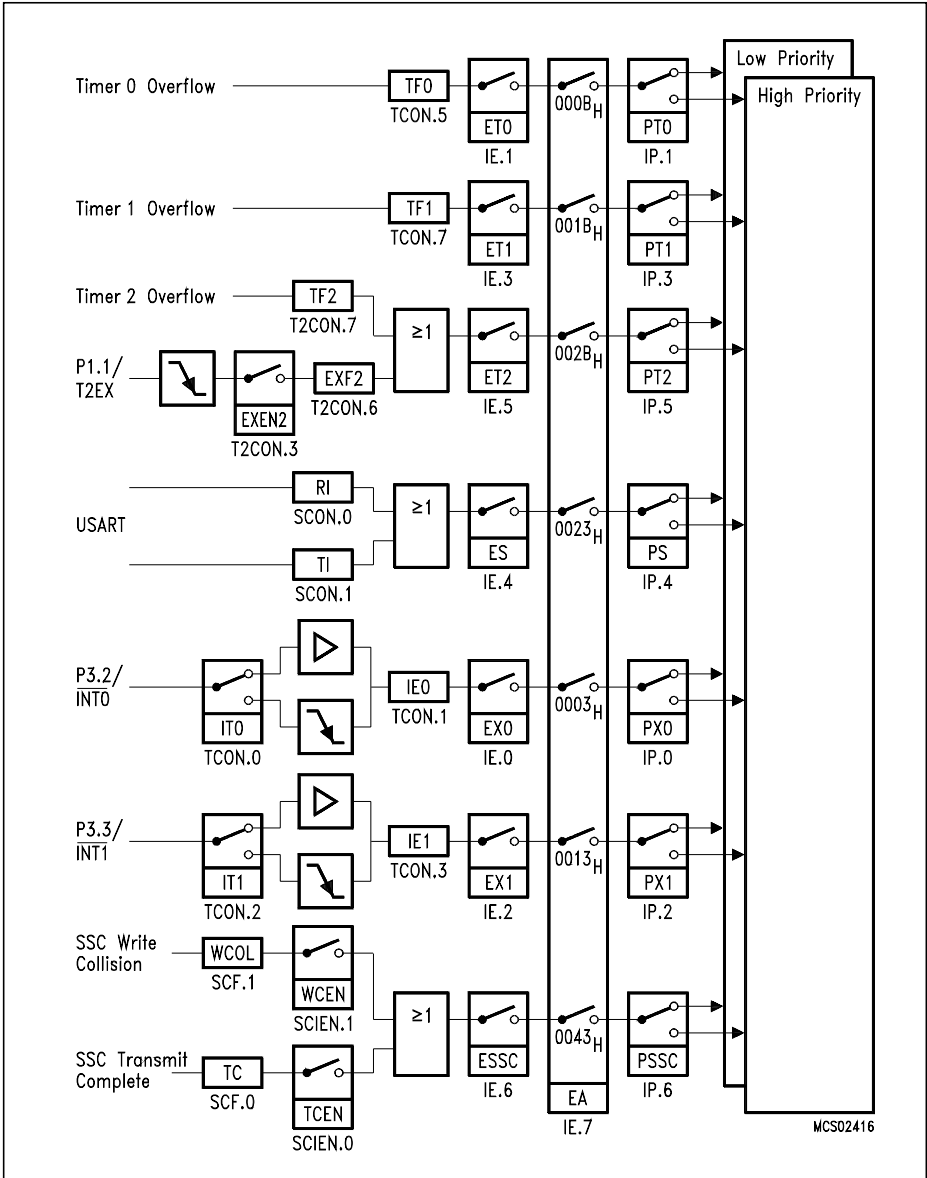

Figure 7-1
**Figure 7-1** gives a general overview of the interrupt sources and illustrates the request and control flags described in the next sections.